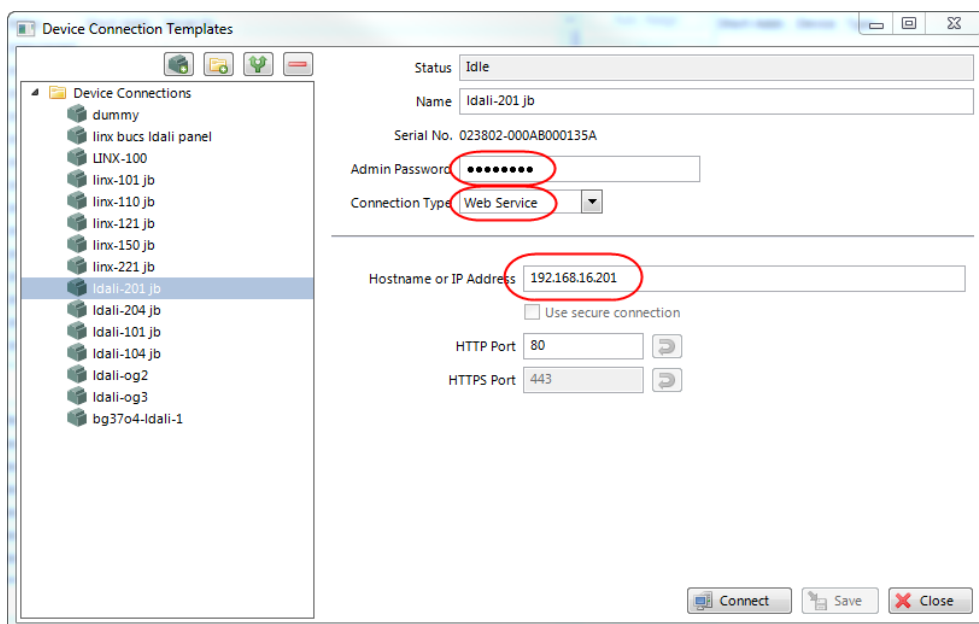

Figure 20: LINX Configurator software, Connection Dialog.
2. In the Connection dialog (see Figure 20) choose connection type “Web Service”, enter the IP address or hostname of the L-DALI and the devices “admin” password. The default “admin” password is ‘loytec4u’ (older firmware versions used ‘admin’).